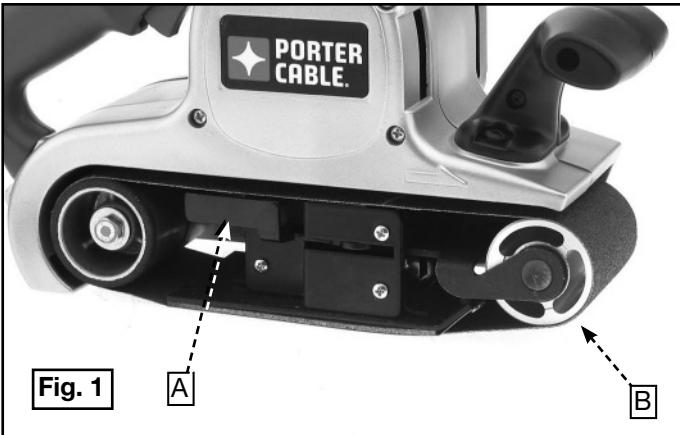

Fig. 1
2. Pull the lever (A) Fig. 1 out toward the front of the machine to retract the idler pulley (B) and release the tension on the abrasive belt.
5. Engage the front pulley by pushing the lever (A) Fig. 1 back to its original position.